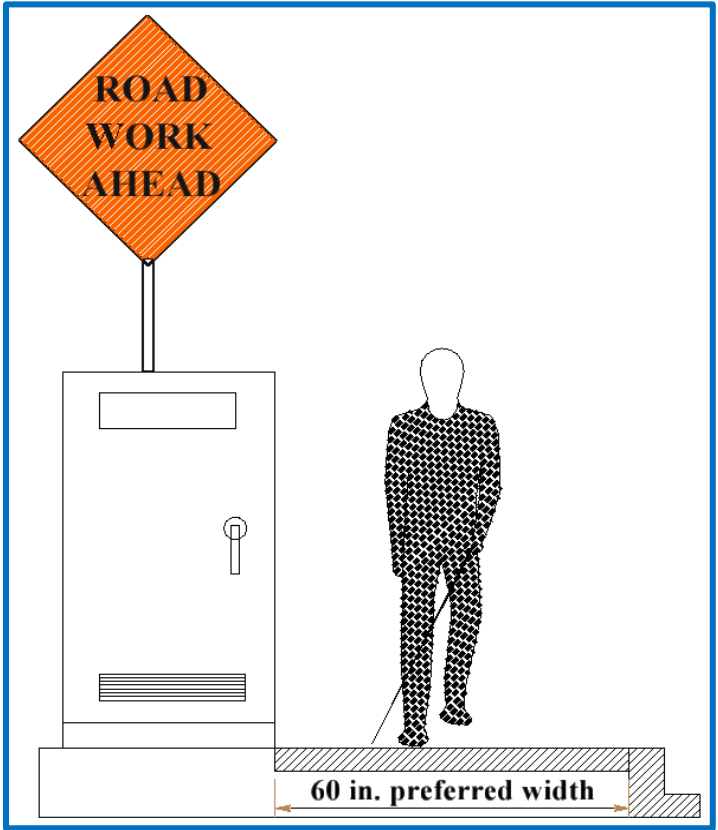

Figure 8 Preferred Pedestrian Route Width
- When feasible, a width of 60 inches should be maintained throughout the pedestrian route. (See Figure 8.)